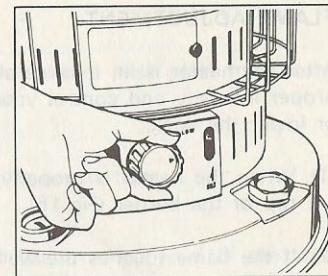

Fig. 12
- (1) Wait 30 minutes after initial fueling, to allow wick to become fully saturated before lighting. If wick is not fully saturated when lighted, heater will not burn properly and will cause smoke and odor.
- (2) Raise the wick to its full height by turning the wick adjustment knob clockwise till it stops (Fig.12). This fully raises the wick